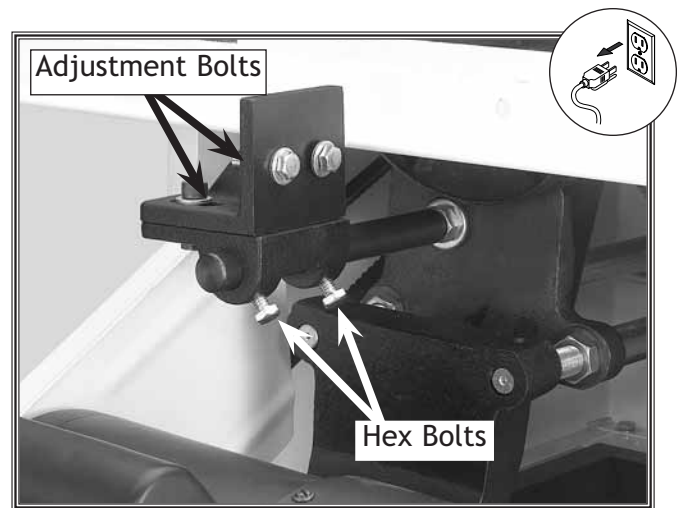

Figure 47. Aligning splitter to blade.
1. Loosen the hex bolts shown in **Figure 47** to allow the blade splitter to rotate on the support shaft.
- If it is, tighten the adjustment bolts shown in **Figure 47** on the splitter bracket.